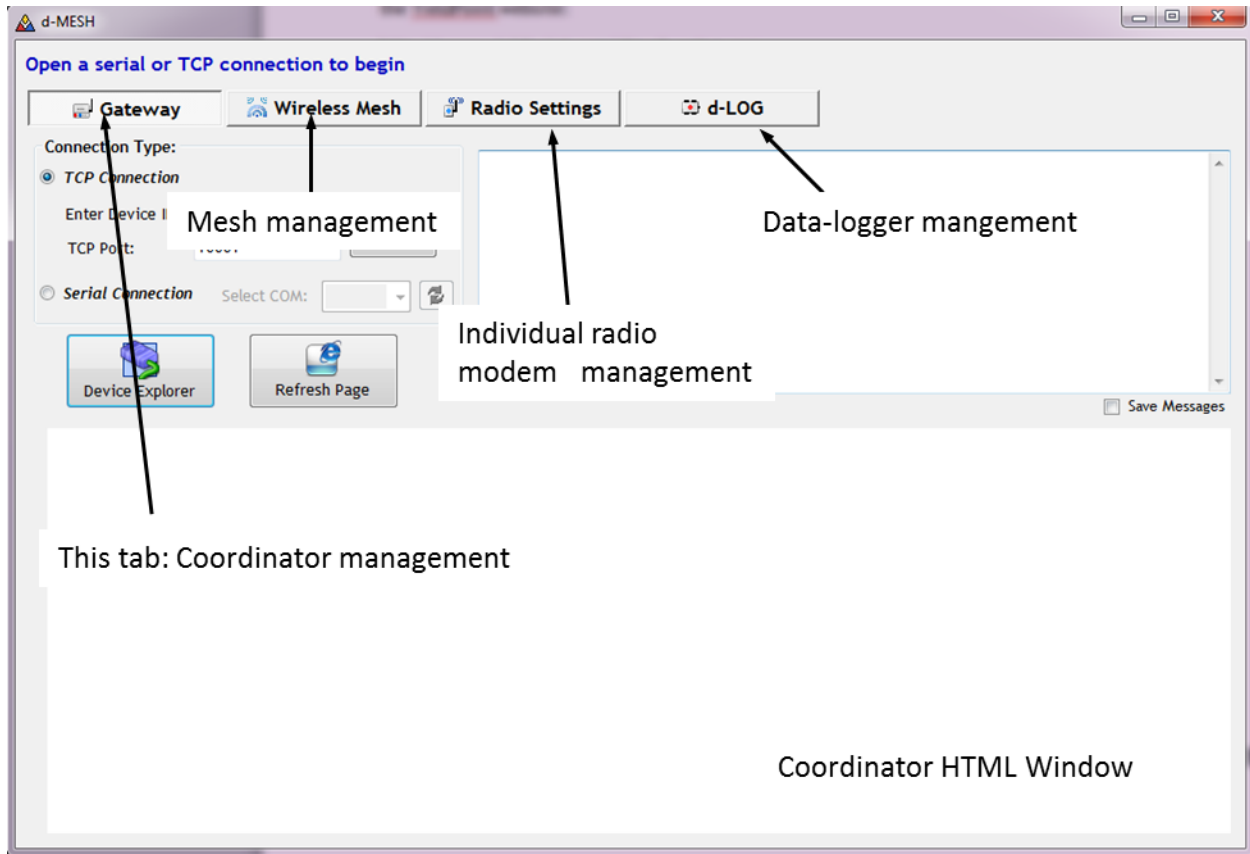

Figure 5: The structure of the d_Mesh Software
STEP 2: Open the d_Mesh software. The structure of the software is described in Figure 5.